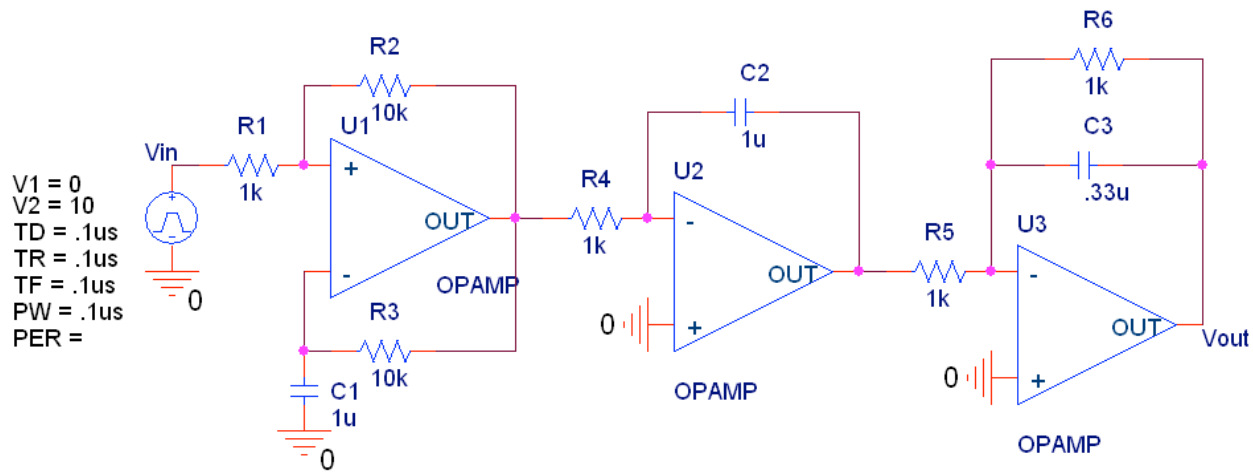

Figure 5: Function Generator
1. Cascade the three previous op-amp circuits to simulate the circuit shown in Figure 5. Print out the schematic for this circuit.